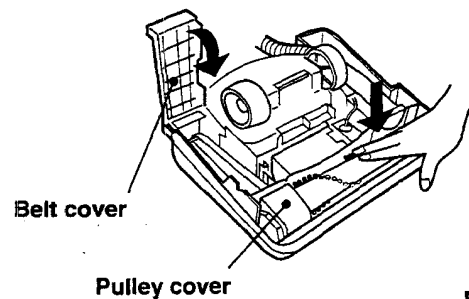

Fig. 27
- 5** Be sure that the flat belt is not twisted and all rotating parts move smoothly. (Fig. 27)